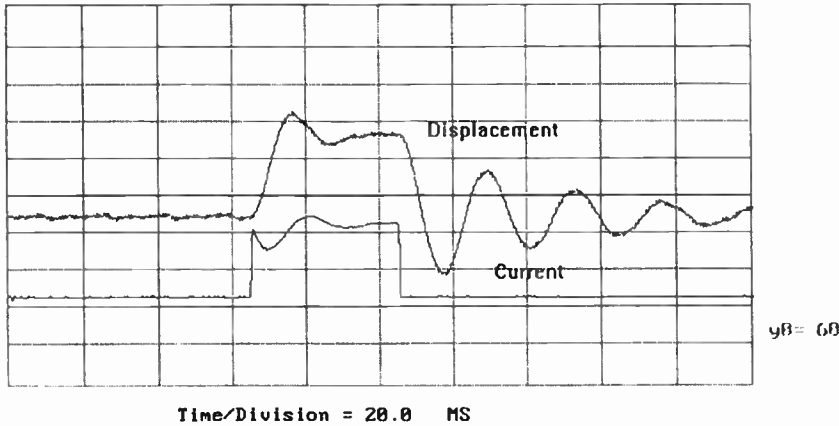

FIGURE 4a: 8" test driver motion axis vertical, right side up.
By using the DC pulse-impedance response of a specific driver, you can evaluate the sum of these design parameters. *Figures 4a* and *4b* are plots of pulse-impedance response for both positive and negative pulses. The first is for the driver “right side up,” and the other for the driver “upside down.” The axis of cone motion is always vertical in these tests.
Looking at *Fig. 4a*, the impedance ratio (IR) decreases with greater positive-amplitude pulses. A decrease in IR indicates a lower maximum cone velocity, i.e., the maximum velocity does not increase linearly with current. This can be caused by increasing suspension compliance with displacement, the usual case, or by a reduction of the magnetic-field strength with displacement.